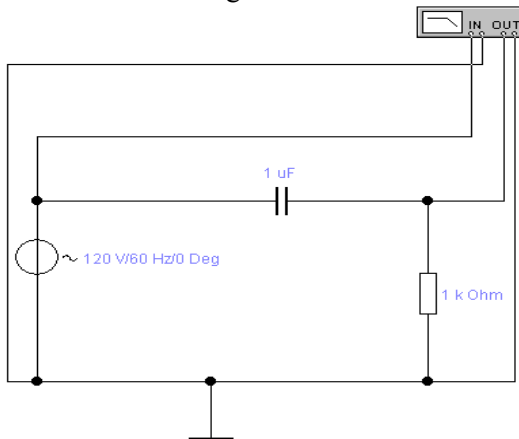

Figure 8.6 - High pass filter
- 1 Draw a diagram of Fig. 8.6.